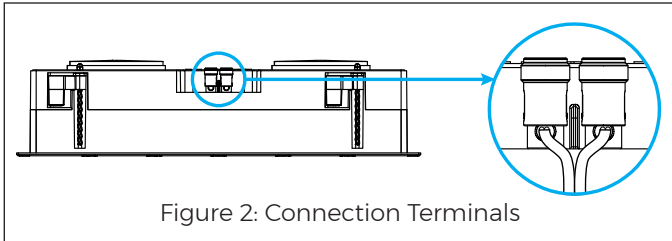

Figure 2: Connection Terminals
- The speaker's connector posts are spring-loaded. Push the top of each connector post down to open the connector and insert the exposed wires into the holes in the posts. The speaker terminals are located on the back, in the top, center of the speaker (see Figure 2).